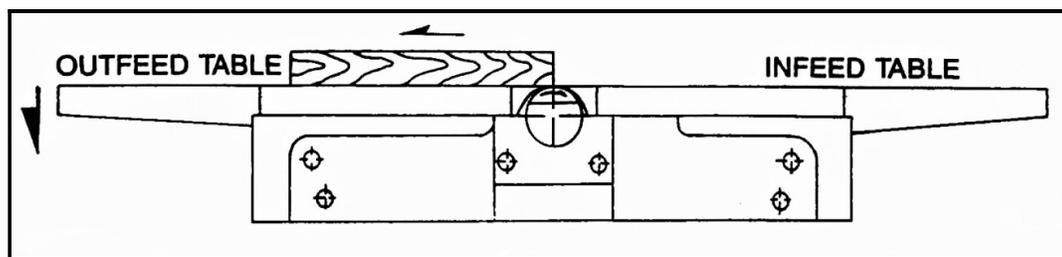

Fig. 23
2. Back end of the finished stock is thicker than front side.	<ul style="list-style-type: none"> ● Check if the outfeed table is higher than knife tip line. ● Adjust rear table to align with knife tip line as shown if Fig. 23